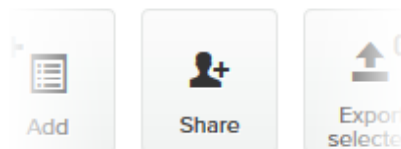

Figure 62. Plug-ins web page (Share button)
4. Click the **Share** button in the upper left-hand corner of the **Plug-ins** web page (Figure 62 \(page 118\)).